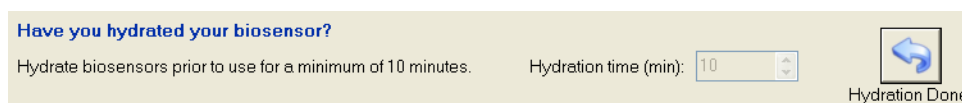

Figure 4-4: Hydration Done
After hydration, the timer runs down to zero (0) and the icon changes to **Hydration Done** (Figure 4-4). The window shakes until the **Hydration Done** icon is clicked.